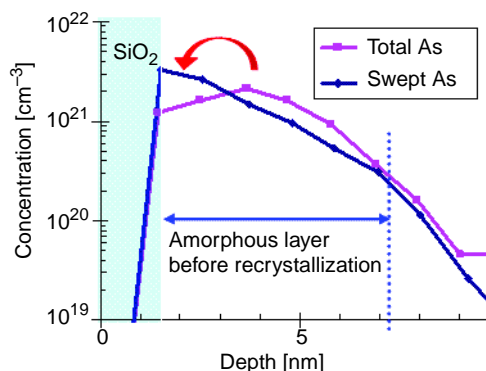

Figure 64 Impurity sweep example showing that arsenic has been pushed through the surface during recrystallization or SPER
- Dopants usually (`recrysDeposit`) remain in the box or move away with the recrystallization front (see Figure 64 on page 459). The two available models for this movement are `Elements` and `Hops`, chosen by the `RedistributionModel` parameter: